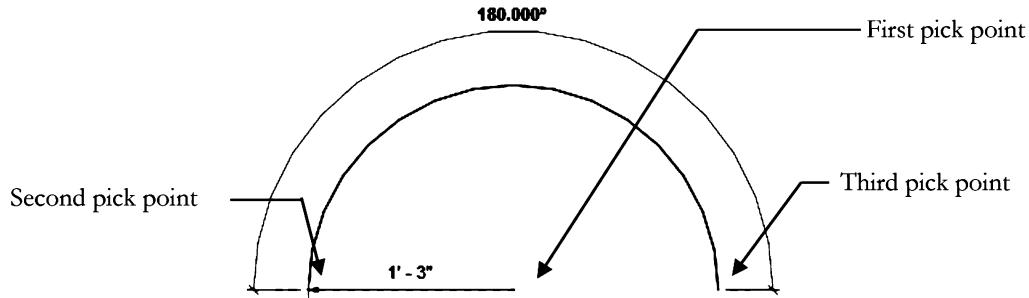

FIGURE 4-2.12 Pick points for arc command
38. *Third Pick:* Move the cursor to the right until the arc is 180 degrees and snapped to the horizontal again (Figure 4-2.12).